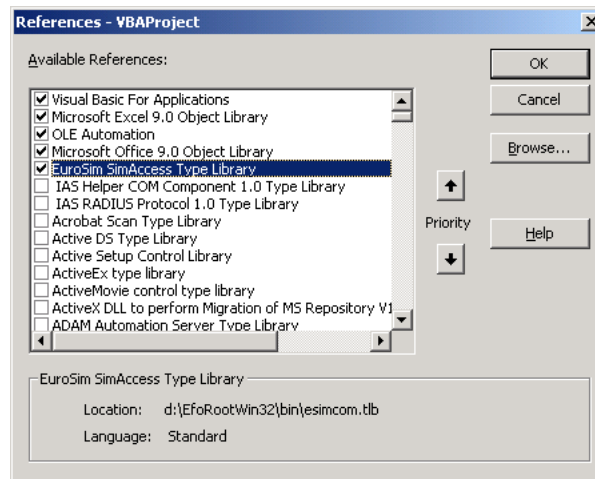

Figure 24.1: Adding a reference to the EuroSim type library
We create the MS Excel client application in a couple of steps. Open a new MS-Excel sheet and open the Visual Basic (VB) editor: Menu: *Tools:Macro:Visual Basic Editor*. Open the references dialog box in the VB editor: Menu: *Tools:References...* and check the box in front of the ‘EuroSim SimAccess Type Library’, see Figure 24.1. Press the ‘OK’ button of this dialog to accept the changes and close the dialog. Now we will add a declaration that creates an instance of the EuroSim COM interface. Create a new module by right-clicking the VBAProject tree and selecting *Insert:Module*. Then type the following in the code section of the new module: